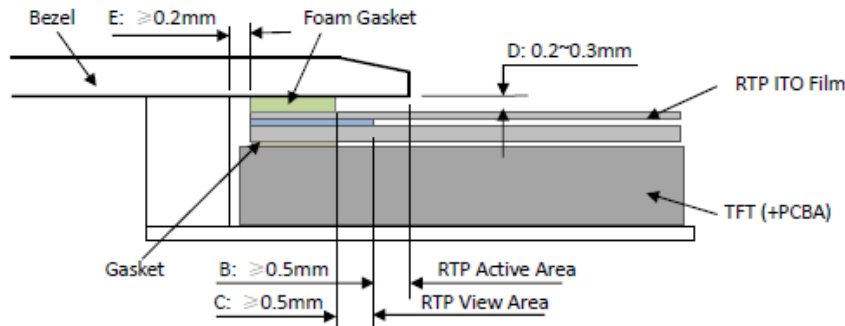

Figure 4
- It should bezel touching the RTP Active Area (A.A.) to prevent abnormal touch.It should left gab $D=0.2\sim 0.3\text{mm}$ in between. (Figure 4)
- 为避免面框直接压在动作区 (A. A.) 上造成误动作，面框与电阻触摸屏 (RTP) 之间应留有一定的空隙 $D=0.2\sim 0.3\text{mm}$ 之间。(附图 4)
It is suggested to protect those areas with gasket (between the bezel and RTP). The suggested figures are $B \geq 0.50\text{mm}$; $C \geq 0.50\text{mm}$. (Figure 4)
- The bezel side wall should keep space $E = 0.2 \sim 0.3\text{mm}$ from the RTP. (Figure 4)
寿命。为保护 RTP 和避免误操作，在 RTP 与面框之间垫缓冲物 (Gasket)，我们建议设计面框应覆盖动作区的边缘，面框边缘到 V. A. 区的距离 $B \geq 0.50\text{mm}$ ；垫圈内边缘到 V. A. 区的距离 $C \geq 0.50\text{mm}$ 。（附图 4）在设计面框与 RTP 组装时，应考虑到面框内侧与 RTP 外侧的间距 $E \geq 0.2\text{mm}$ 。（附图 4）